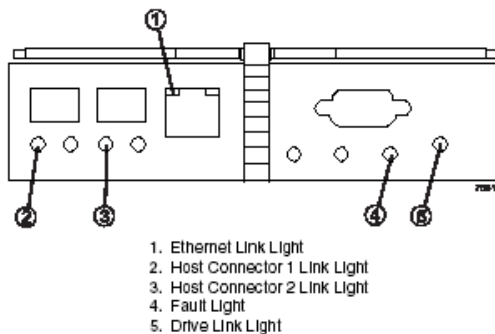

FIGURE 7-14 Controller Host Link, Drive Link, and Fault Lights
20. Based on the status of the Host Link, Drive Link, and Fault lights, choose one of the following steps. Figure 7-14 shows the locations of these lights.